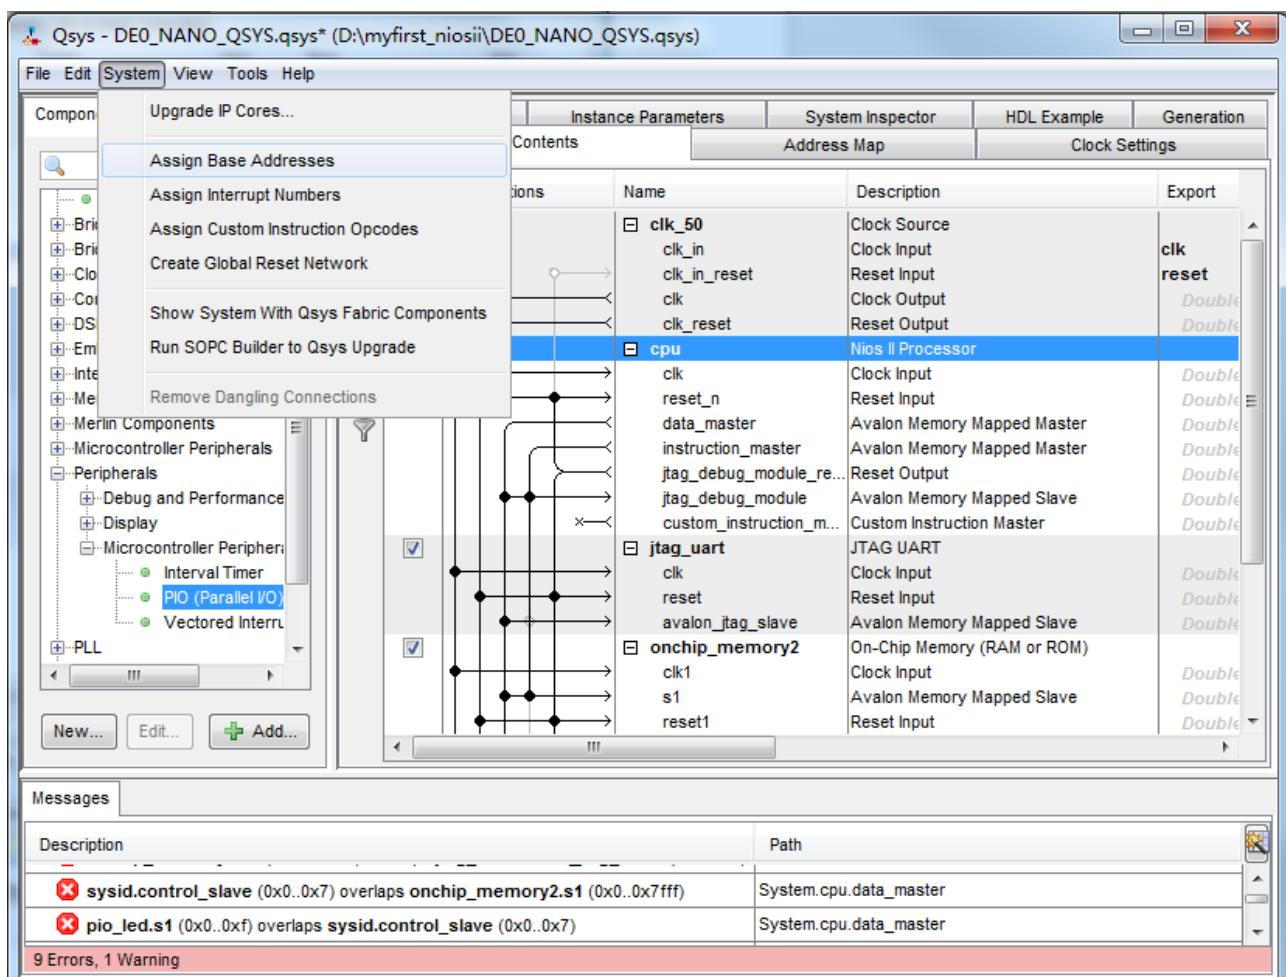
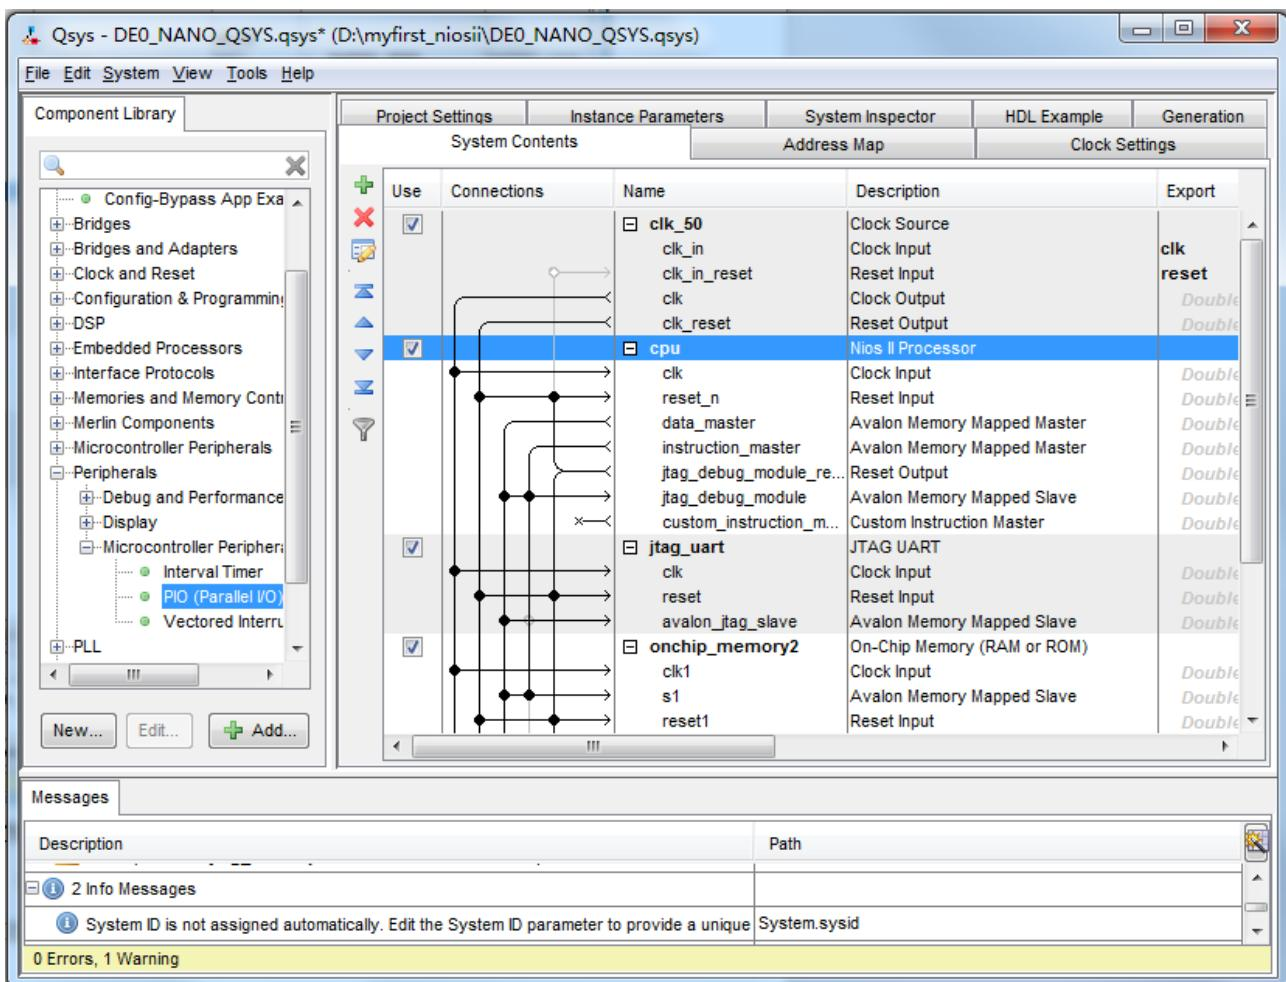

Figure 1-43 Assign Base Addresses
Figure 1-44 No Errors
28. Choose System > Assign Base Addresses as shown in **Figure 1-43**. After that, you will find that there is no error in the message window as shown in **Figure 1-44**.